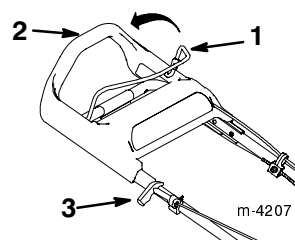

Figure 12
3. Hold the blade control bail against the upper handle (Fig. 12).
4. Pull the starter handle lightly until you feel resistance, then pull it sharply (Fig. 12). Allow the rope to return to the handle slowly.